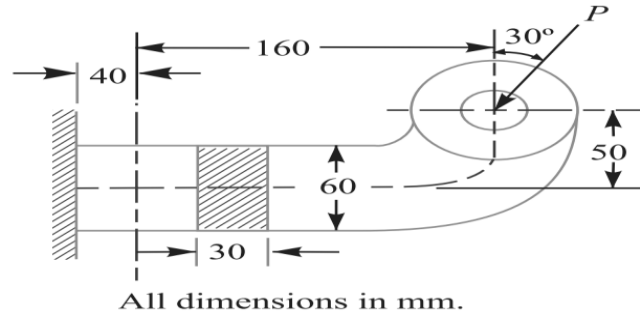

Fig. Q1(b)
- (b) A bracket, as shown in Fig. Q1(b), is bolted to the framework of a machine which carries a load P . The cross-section at 40 mm from the fixed end is rectangular with dimensions, 60 mm \times 30 mm. If the maximum stress is limited to 70 MPa, find the value of P . 10M